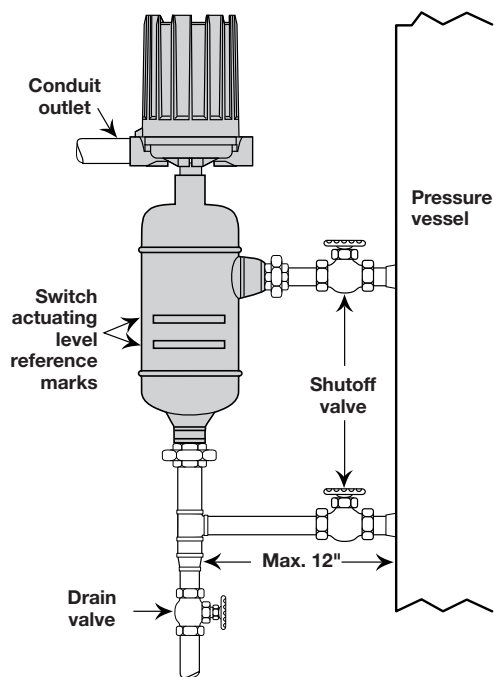

Figure 3
Figure 3 shows a typical piping installation of a Magnetrol Series 3 control to a pressure vessel. Level decals on control identify the actuation levels for the bottom switch mechanism of a unit with three switches at minimum specific gravity. Charts defining actuation levels for a unit with one switch at different specific gravities can be found on pages 23–24, *Actuating Levels and Specific Gravities*, Section 5.2.3.
- 5b. Close shut-off valves (if so equipped) to isolate control from tank. Drain off liquid in float chamber. Refer to **Figure 3** on page 5.